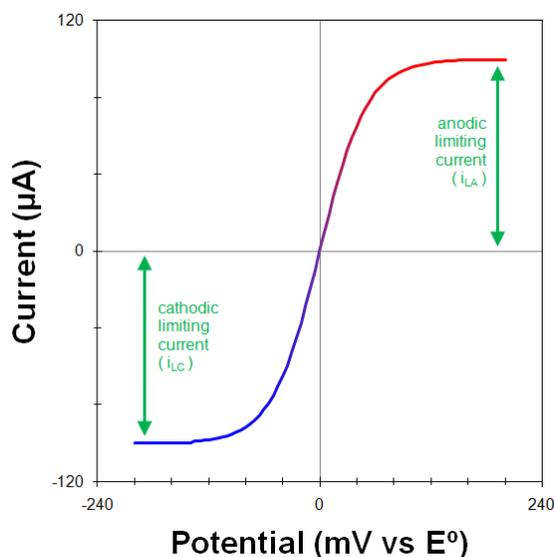

Figure 10.6: Voltammogram for a Solution Containing Both O and R
Finally, it should be noted that when the oxidized form (O) and the reduced form (R) of a molecule or ion are both present in a solution at the same time, the voltammogram is likely to exhibit both a cathodic and an anodic limiting current (see Figure 10.6). It can be very difficult to measure the limiting current properly